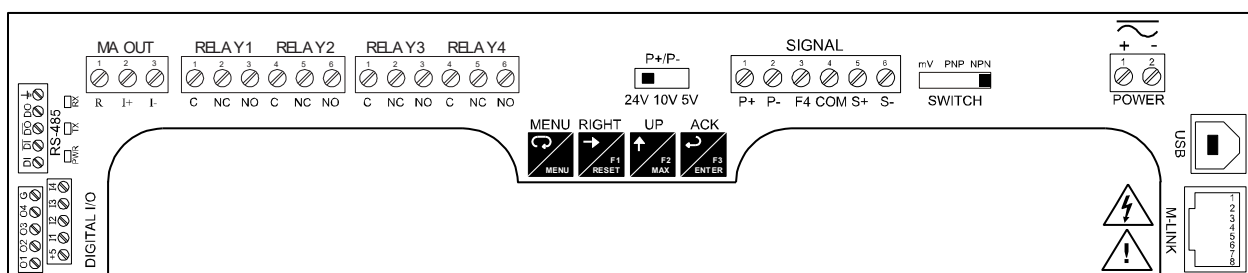

Figure 7. Connector Labeling for Fully Loaded PD2-6300
Power connections are made to a two-terminal connector labeled POWER on Figure 7 on page 14. The meter will operate regardless of DC polarity connection. The + and - symbols are only a suggested wiring convention.
Signal connections are made to a six-terminal connector labeled SIGNAL on Figure 7. The COM (common) terminal is the return for the input signals.
Serial communications connection can be made to the onboard RS485 terminal block or USB connector shown in Figure 7. If RS232 is required, an RS485 to RS232 adapter (PDA7485) may be used. See Ordering Information on page 5 for additional information.
Relay connections are made to two six-terminal connectors labeled RELAY1 – RELAY4 on Figure 7. Each relay's C terminal is common only to the normally open (NO) and normally closed (NC) contacts of the corresponding relay. The relays' C terminals should not be confused with the COM (common) terminal of the INPUT SIGNAL connector.